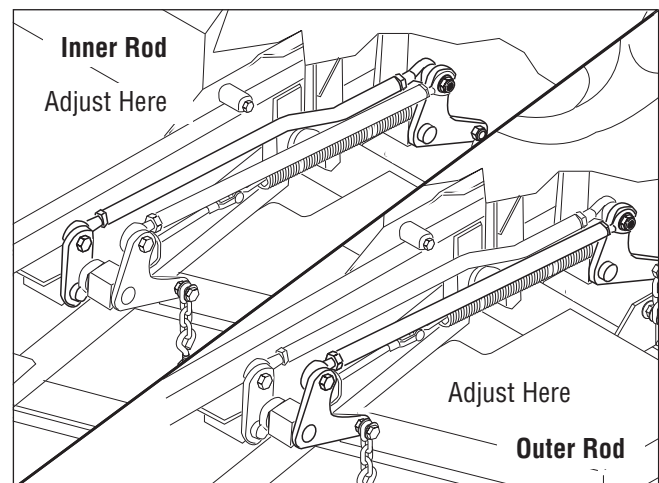

Figure 42. Adjust the Inner & Outer Lift Rods
4. **To adjust the inner lift rod** (Refer to Figure 42):
9. **To adjust the outer lift rod** (Refer to Figure 42):